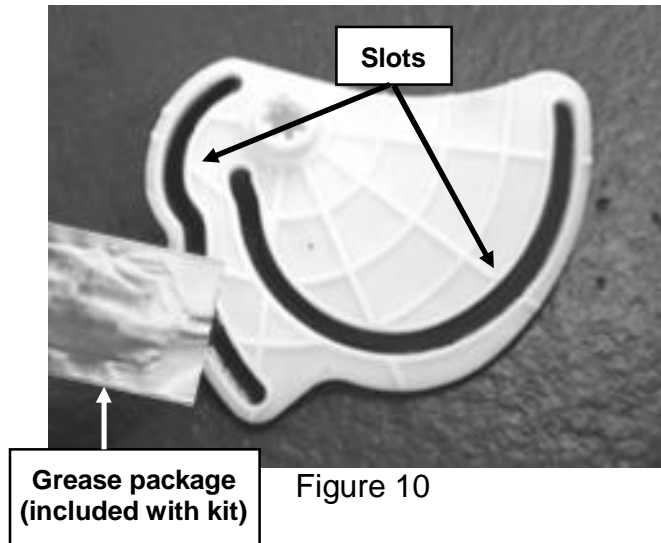

Figure 10
17. Grease the slots of the new cam (see Figure 10).